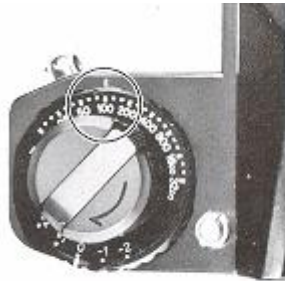

Fig. 13
1. Depress Film Speed Lock Button (4) (**Fig. 12**) and rotate Film Speed Dial (3) until the ASA number of your film is exactly opposite the index line and click stops. For example, if the film is ASA 100, make the correct setting at "100" (**Fig. 13**).
2. Take your finger off Film Speed Lock Button (4) to lock the film speed setting in the camera.